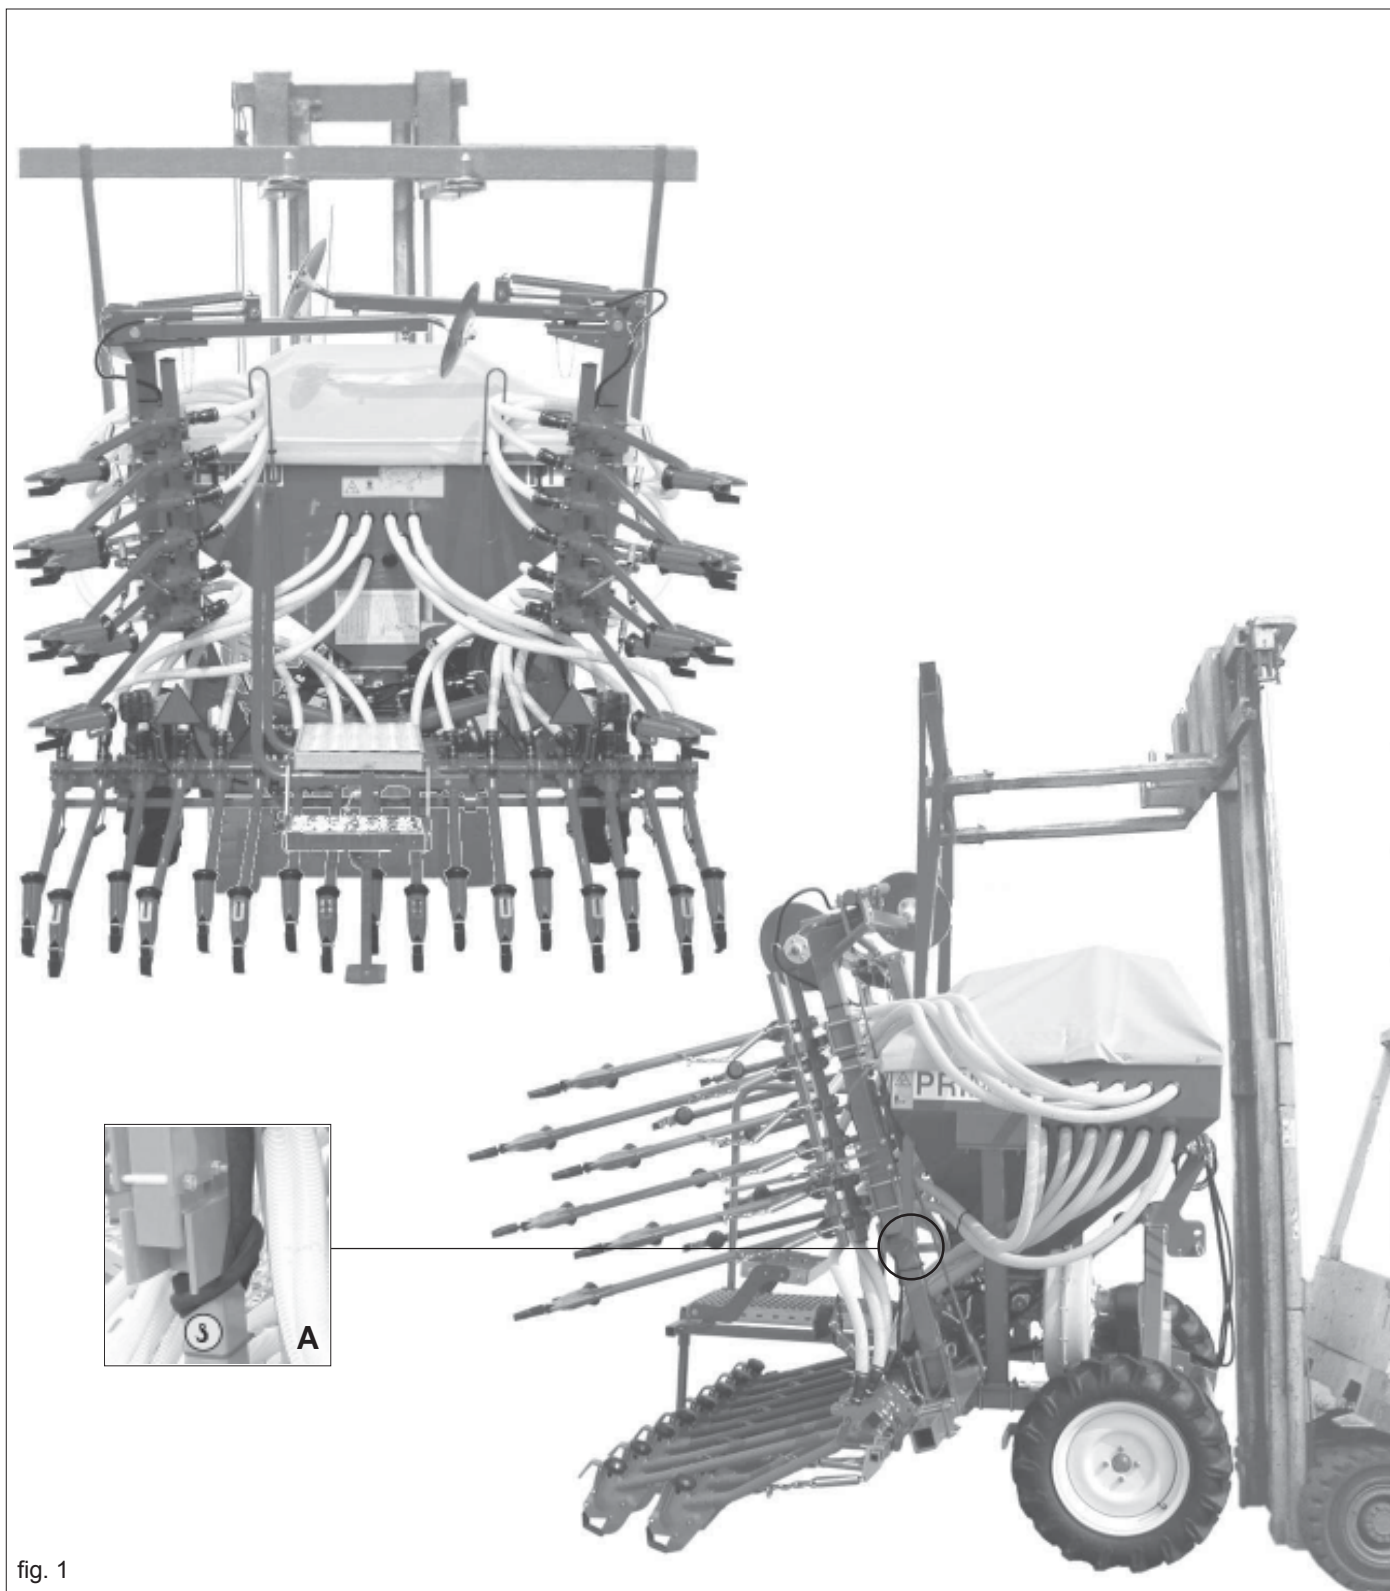

fig. 1
If the machine is handled, it must be lifted by hooking onto the appropriate holes (A) (Fig. 1) with a suitable winch or crane of sufficient capacity. Because of the danger involved, this operation should be carried out by trained and responsible personnel.